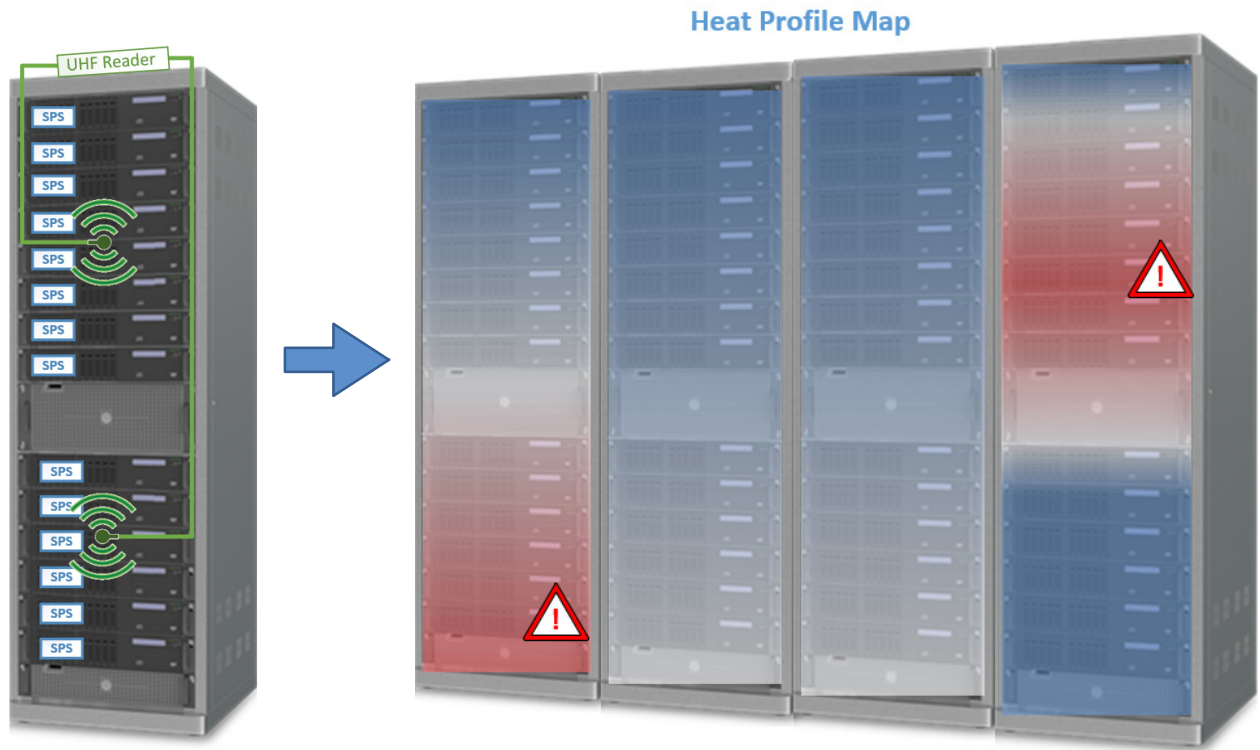

Figure 2. Intra-Rack SPS Solution Implementation
- Reader antenna placement should look similar to the system solution shown in Figure 2 in order to minimize the distance between SPS tags and reader antennas
The unique 128-bit EPC identifier for each SPS tag allows the sensor data to be sorted and mapped, and even to monitor a single piece of equipment's temperature profile over its lifetime. The visualization shown in Figure 2 demonstrates how the temperatures from a multitude of sensors can be used to generate a heat map of full server racks. Various types of excursions such as isolated hot-spots or rack-wide temperature shifts can be used to trigger automated messages specifying any required actions.